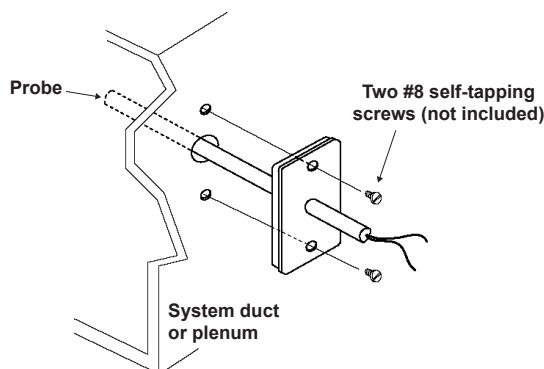

Figure 1 - Installing the TE-701-A or TE-701-B Sensor
- Make the wiring connections. Refer to **Figure 1**.